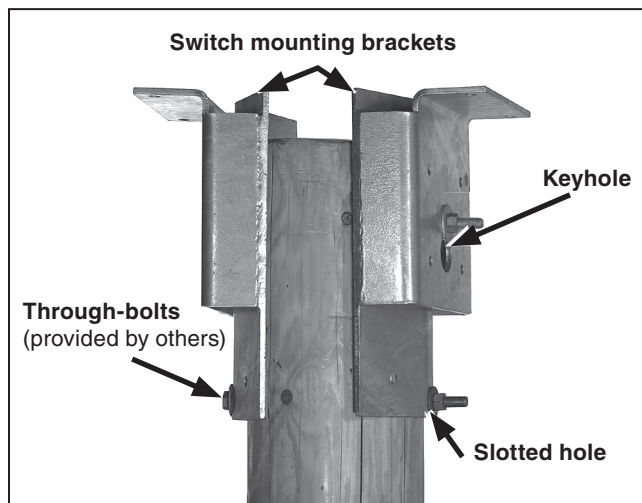

Figure 15. Positioning the switch mounting brackets (pole-top mounting configuration shown).
STEP 12. Position each switch mounting bracket on the side of the utility pole so the through-bolts slip into the holes in the brackets. (Each bracket is provided with a keyhole and an open slotted hole for this purpose.) Lower the brackets so they bear on the through-bolts and so the top of the brackets are approximately 3 inches (76 mm) above the top of the utility pole. Make sure the flat washers for each bolt are between the bolt head (or nut) and the switch mounting bracket. Adjust the brackets so the top surfaces are on the same level. Then, tighten the through-bolts. See Figure 15.